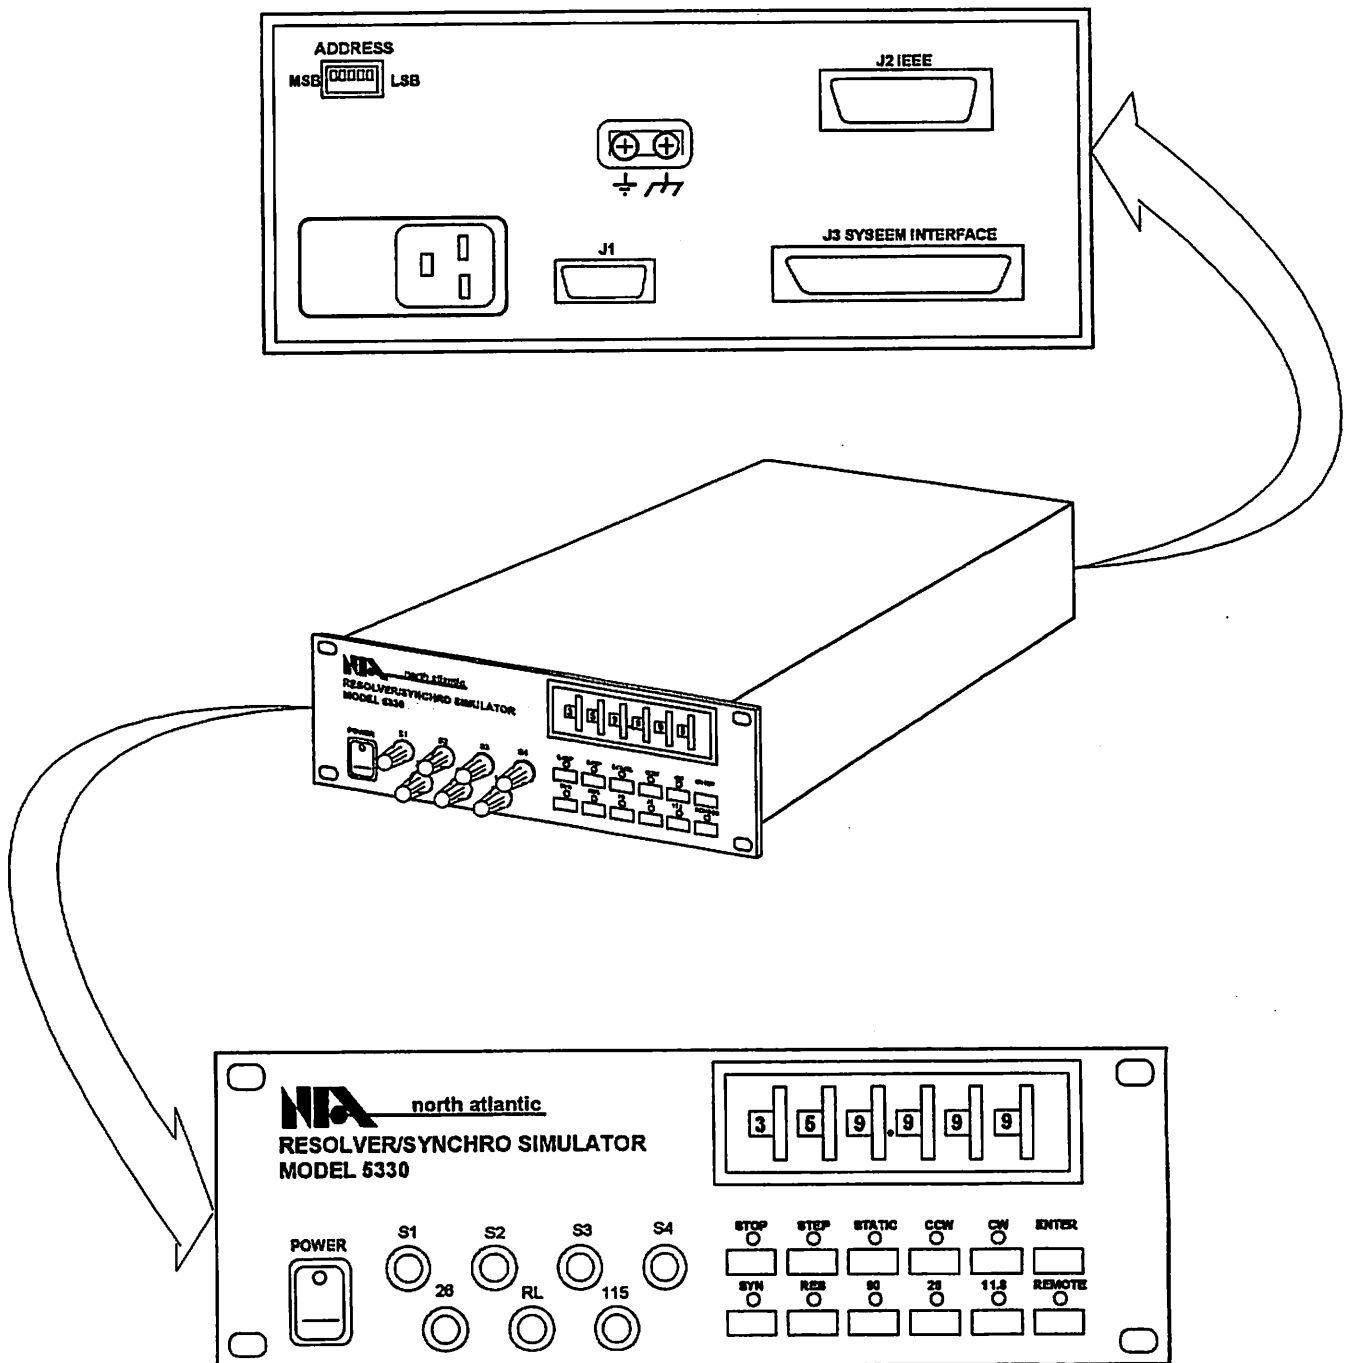

Figure 3-1. Controls and Indicators
3-3.1 Mounting. The Simulator may be mounted on a bench or in a standard half rack, in any physical position. The Model 5330 may be mounted in a standard 19-inch equipment rack when an optional full rack mounting adapter is used (see Table 1-4). It requires no special cooling equipment. Mount the unit so that air flows freely around it, particularly the right side (as viewed from the front) which is used to transmit heat from the output amplifiers. Figure 3-1 illustrates full and tandem rack mounting. A tandem full rack (two unit) adapter accessory kit is also available, permitting the model 5330 to be mounted together with Model 8810 or 5310.
- a. Refer to Figure 3-1, Mount full rack extender panels to each side of unit using #10-32 x 5/8-inch pan head screws.
- a. Referring to figure 3-1, establish left and right mounting locations for each instrument.